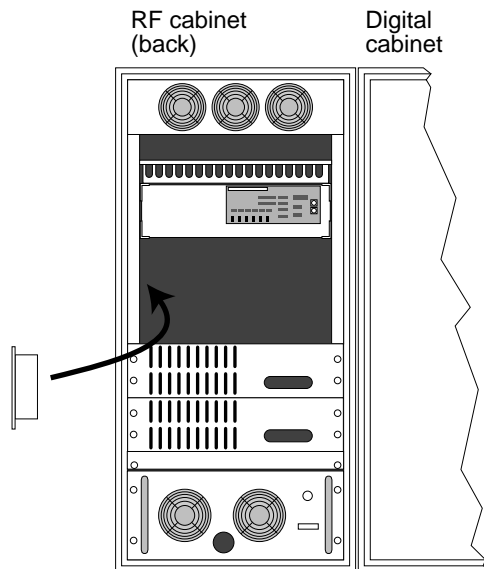

Figure 5. Voltage Regulator Module Installation
2. Mount the voltage regulator module (01-905652-00) in the back of the rf cabinet, as shown in **Figure 5**. Use the #10 screws, nuts, and washers (12-222060-08, 14-122010-00, and 14-202010-00).